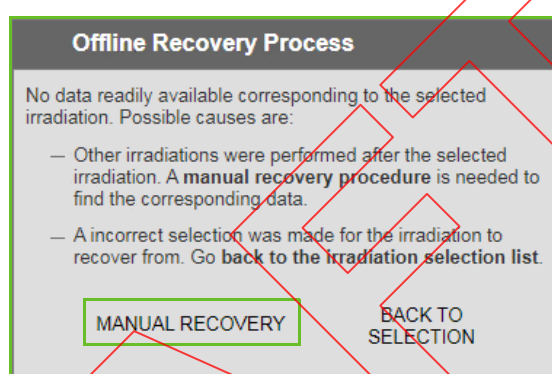

Figure 41-13. Recovery after termination by adaPTdeliver - Manual data recovery message (offline)
1. When the automatic recovery procedure fails, click **Manual Recovery** in the popup message (Figure 41-13).